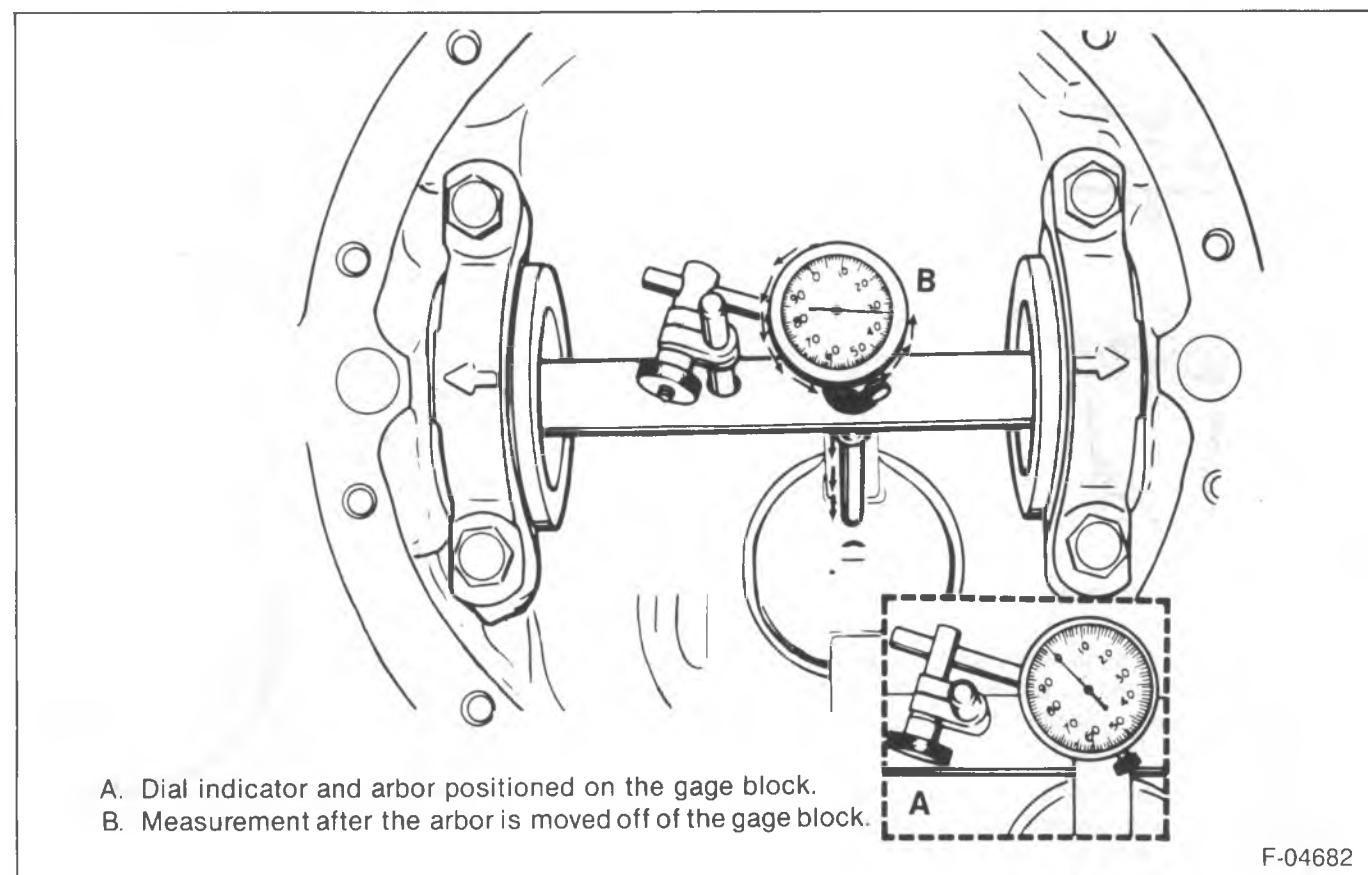

Figure 13—Checking Pinion Depth
- Example: If the indicator needle moved to the left 1.70 mm (0.067-inch) to a dial reading of 0.84 mm (0.033-inch) as shown in figure 13, record the dial reading of 0.84 mm (0.033-inch) not 1.70 mm (0.067-inch).